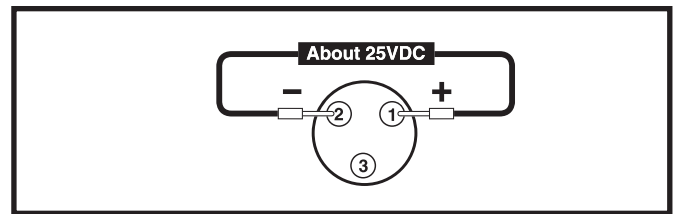
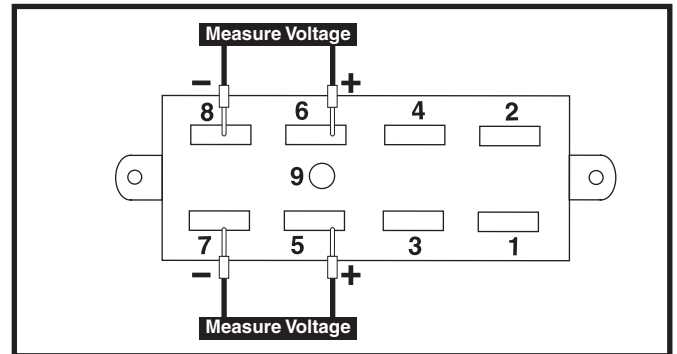
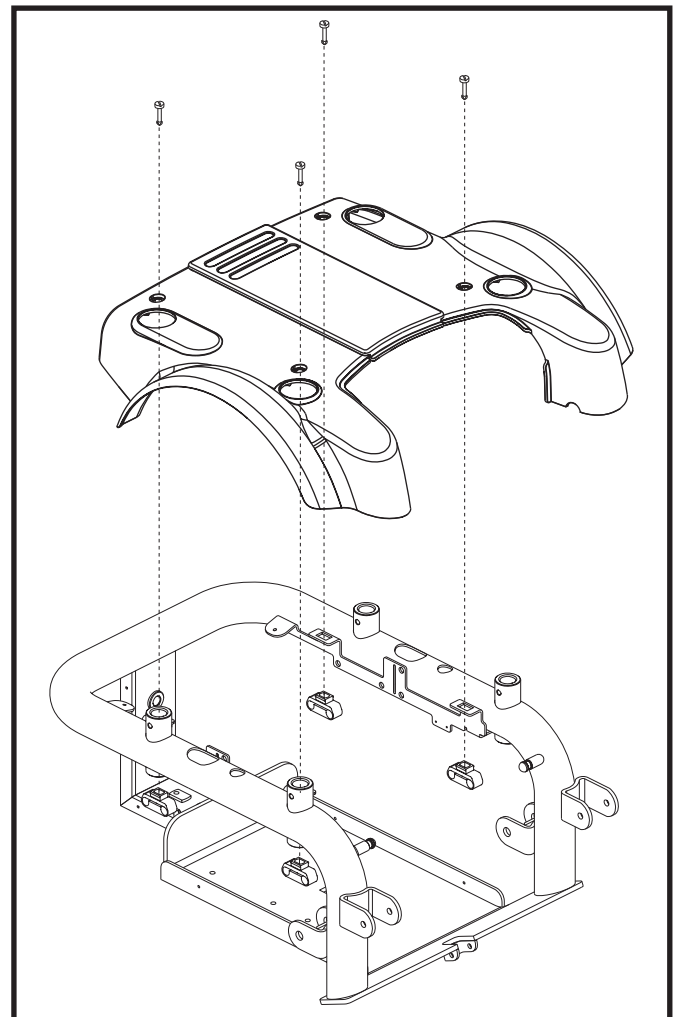

Figure 2. Connector 1a
Figure 3. Connector 2a
Figure 4. Jazzy 1121 Shroud Assembly/Disassembly
1. Measure voltage across pin 1 (B+) and pin 2 (B-) on connector 1a. **See figure 2.**
- If your multimeter indicates about 25VDC, then replace the VSI controller (1) and retest the system.
3. Measure voltage across pin 6 (B+) and pin 8 (B-) on connector 2a and across pin 7 (B-) and pin 5 (B+) on connector 2a. **See figure 3.**
- If your multimeter indicates more than 18VDC, then replace the VSI controller (1) and retest the system.
5. Remove the shroud. **See figure 4.**